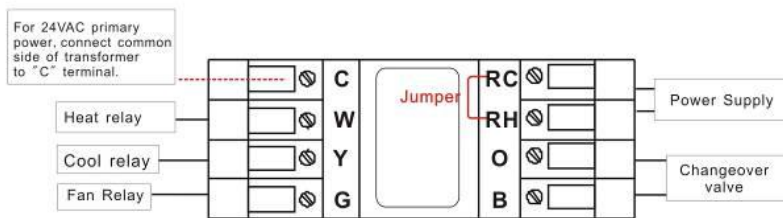

Figure 2
9. Insert stripped, labeled wires into matching wire terminals. See "Wiring Diagrams", Figure 2.